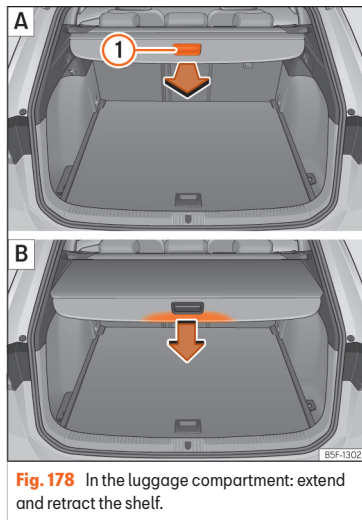

Fig. 178 In the luggage compartment: extend and retract the shelf.
- Pull evenly on the rear shelf using its handle »»» **Fig. 178** ① in a backwards direction until it audibly clicks into place.
- Press on the handle of the rear shelf in the direction of the arrow to release it »»» **Fig. 178** B.